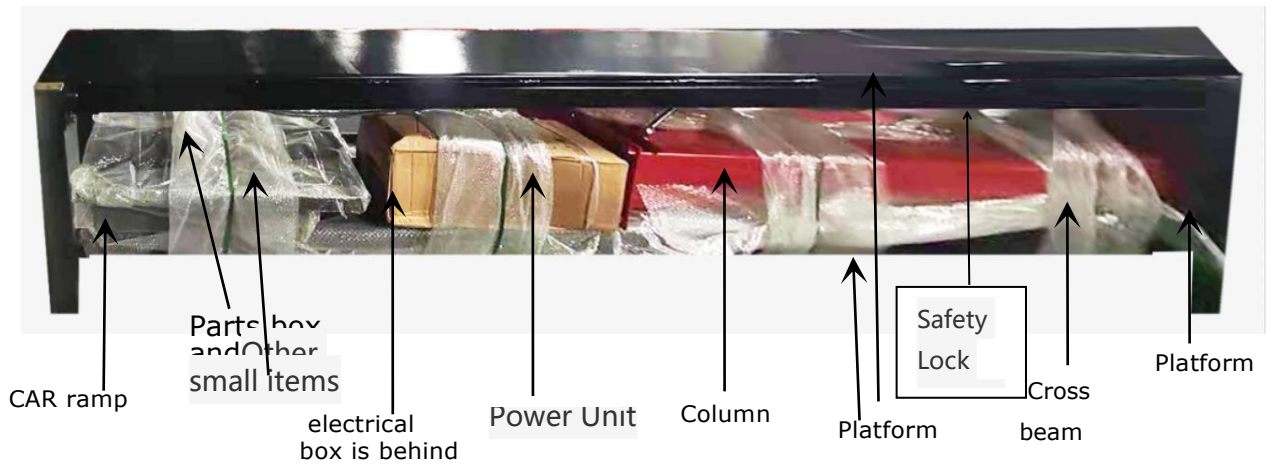

Fig.5(Note: Parts may be located in different parts in different batches)
2. Open the outer packing carefully(**See Fig. 5**).